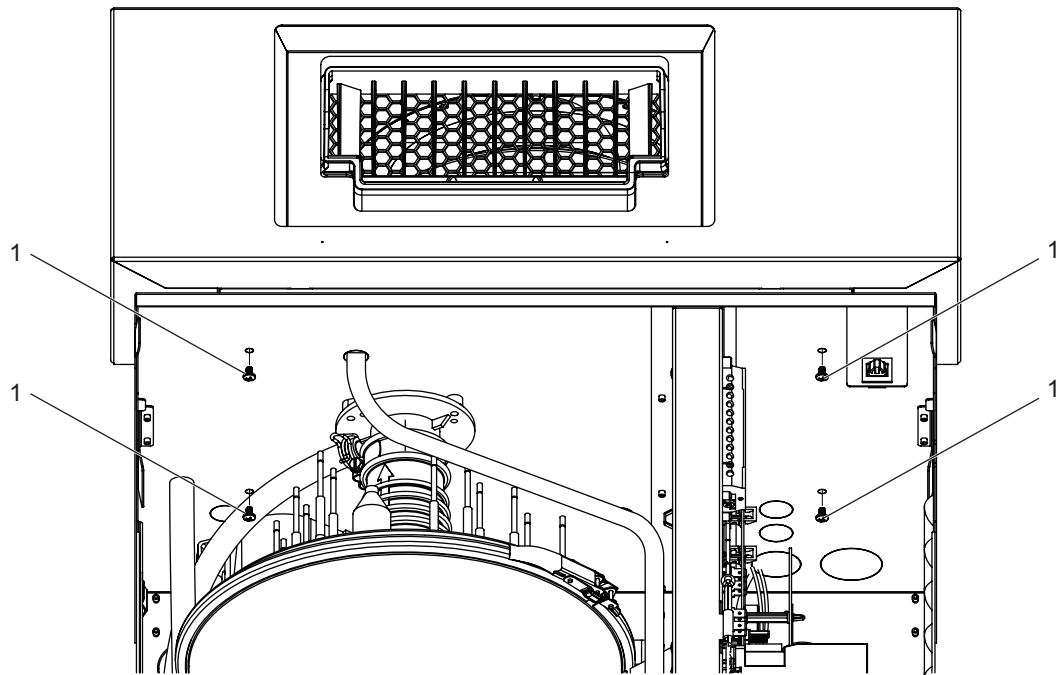

Figure 22: Blower Pack Fastened to Humidifier
- b. Fasten the blower pack to the humidifier from the bottom with two M4×6 mm screws (supplied). Refer to Figure 22 on page 38.